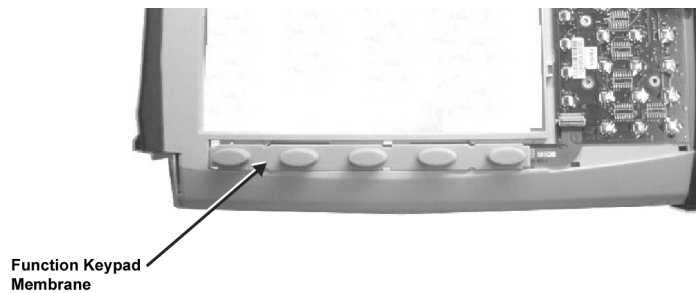

Figure 3-11. Function Keypad Membrane and Function Keypad PCB
4. Remove the function keypad membrane by gently pulling the membrane up and away from the front panel (Figure 3-11).